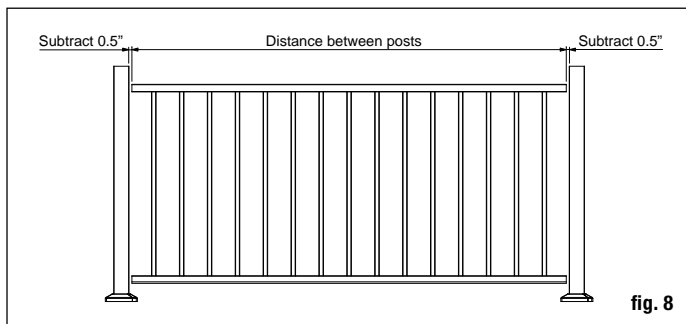

fig. 8
Step 6 Measure the distance between installed posts to determine the length of the top rail. The rails are sized for 6' and 8' on-center posts, when using 2.5" posts, and include space for the brackets. Position rail adjacent to installed posts. The distance between the post and the spacer should be equal on both ends. Use one spacer for 6' rails and two for 8'. Never span more than 36" without a spacer to maintain proper cable spacing. As needed, trim the top rail to length for runs that are less than 6' or 8' on-center. Mark the length on top rail, and remove an additional 1/2" from both ends (1" overall) for the bracket to fit between the rail and post (fig. 8).